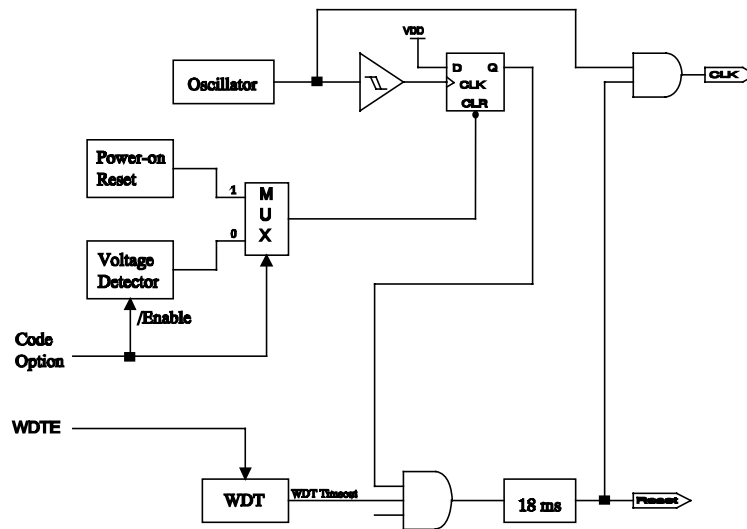

Fig.11 Block diagram of Reset of controller
- (1) External /RESET pin
- (2) Power on reset or Power on voltage detector reset (/POVD reset)
- (3) WDT timeout. (if enabled and in GREEN or NORMAL mode)
Note that only Power on reset, or only Power on voltage detector reset in Case(2) is enabled in the system by CODE Option bit. If /POVDs disabled, Power on reset is selected in Case (2). Refer to Fig.11.